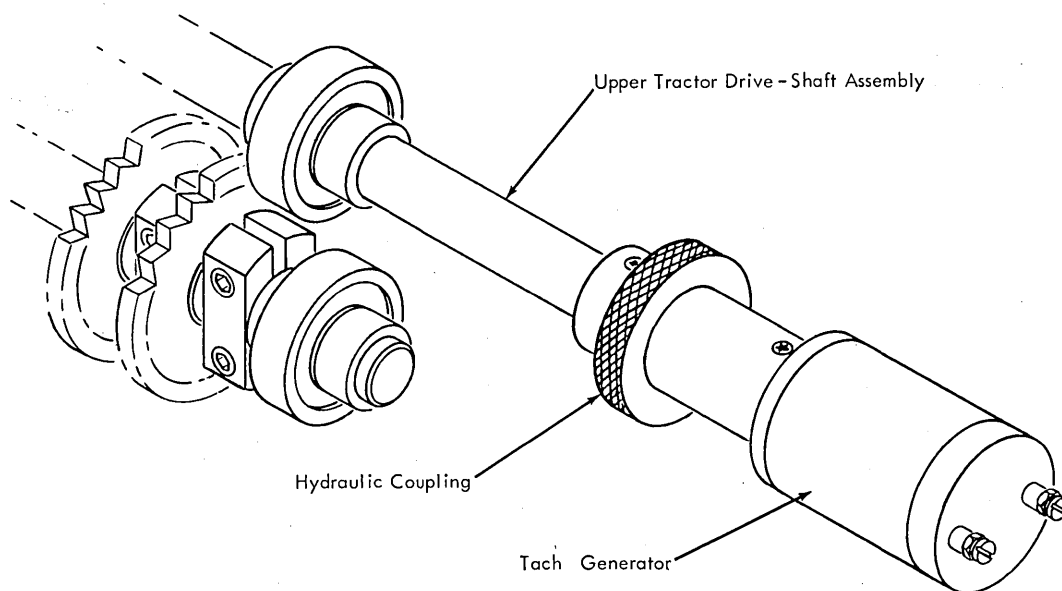

Figure 4-59. Tach Generator and Coupling
The tach generator (Figure 4-59) converts the mechanical motion of the carriage into an electrical output for scoping. This is an extremely accurate method of adjusting and analyzing the hydraulic unit.
2. Remove the paper-advance knob from the upper tractor drive shaft. Install the tach generator (part 450976) and coupling (part 451290) on the shaft as shown in Figure 4-59 and tighten the setscrew.